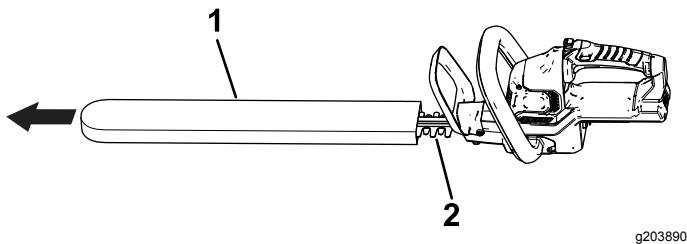

Figure 3
1. Remove the protective cover from the cutter blades (Figure 3).